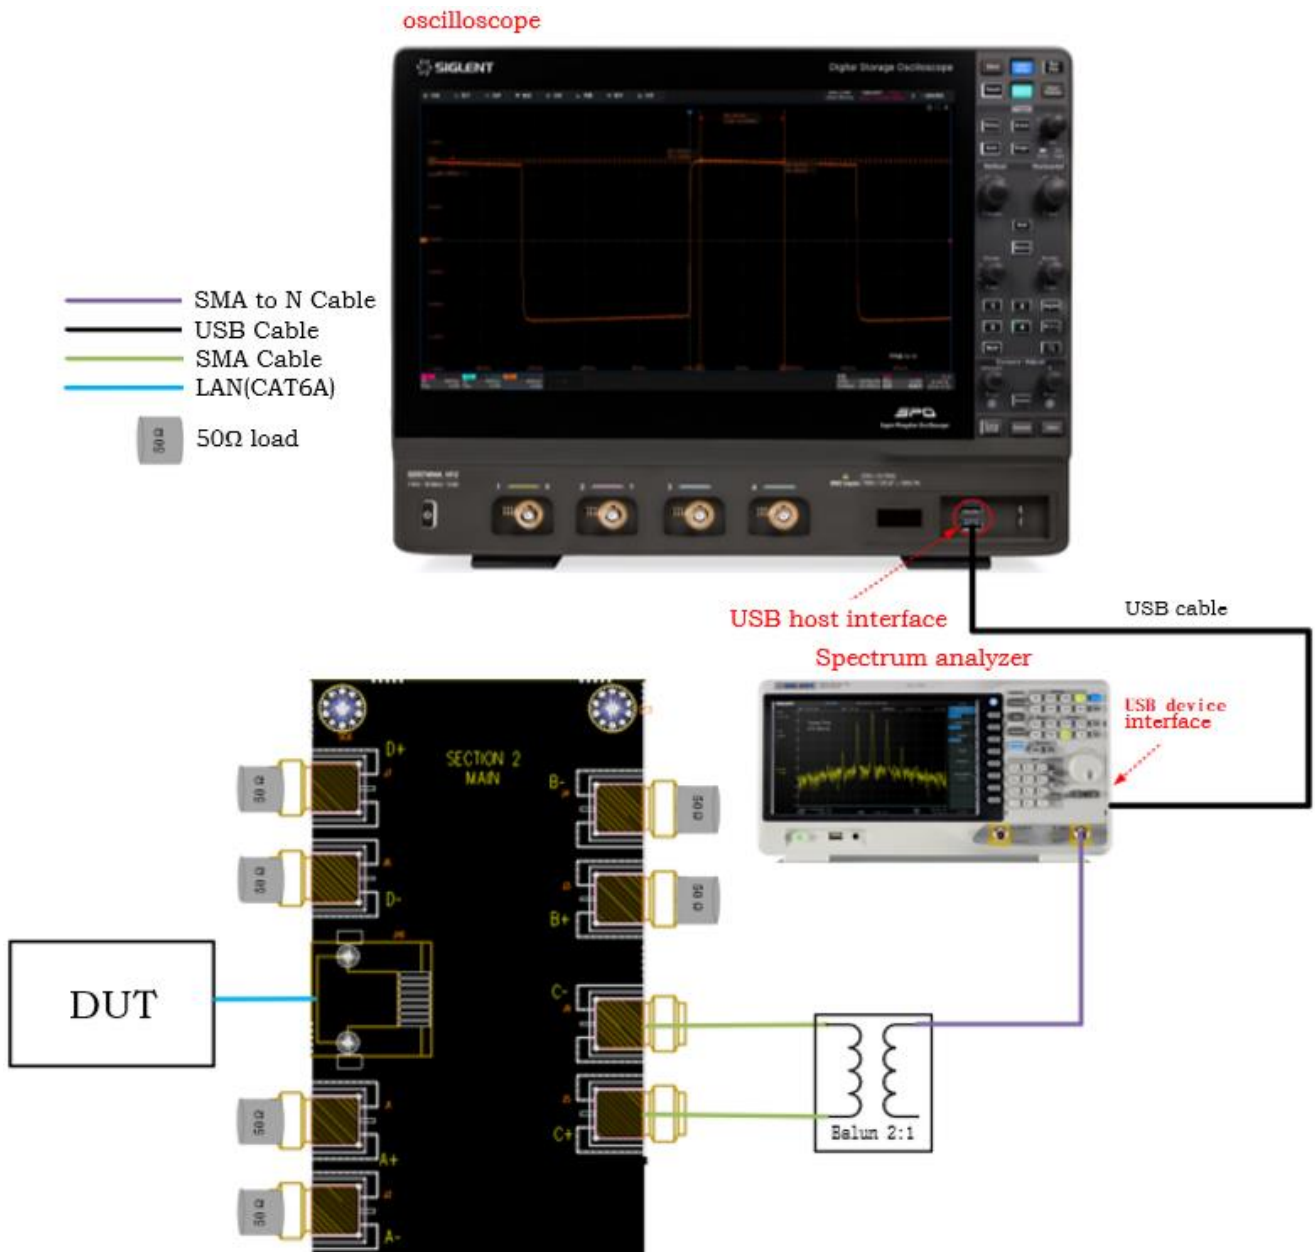

Figure 3-5 Connection Mode Using Spectrum Analyzer
(2) Test environment using spectrum analyzer: transmitter linearity, transmitter nonlinear distortion, power spectral density and power level. When choosing to use spectrum analyzer for testing, the test environment is the same, and the test fixture area ② and Balun are used. The DUT needs to output the waveform of the test mode corresponding to the corresponding test item. The connection mode is shown in Figure 3-5: